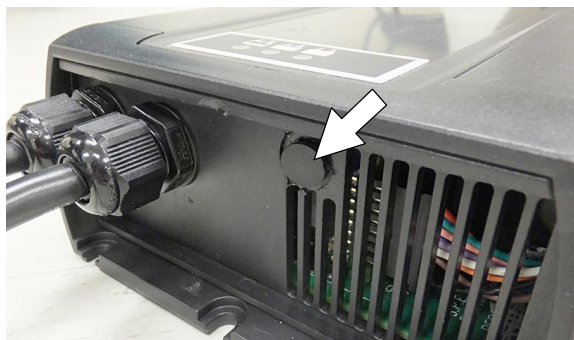

FIG. 118
5. Remove the black cap from bottom side of charger to access the profile dial (Figure 118)